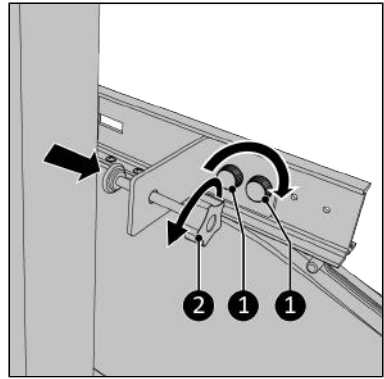

Figure 91.
12. Screw the clamping screw all the way back (Figure 91, pos. 2).
15. Screw the clamp bracket to the main rail using the two knob screws (Figure 91, pos. 1).